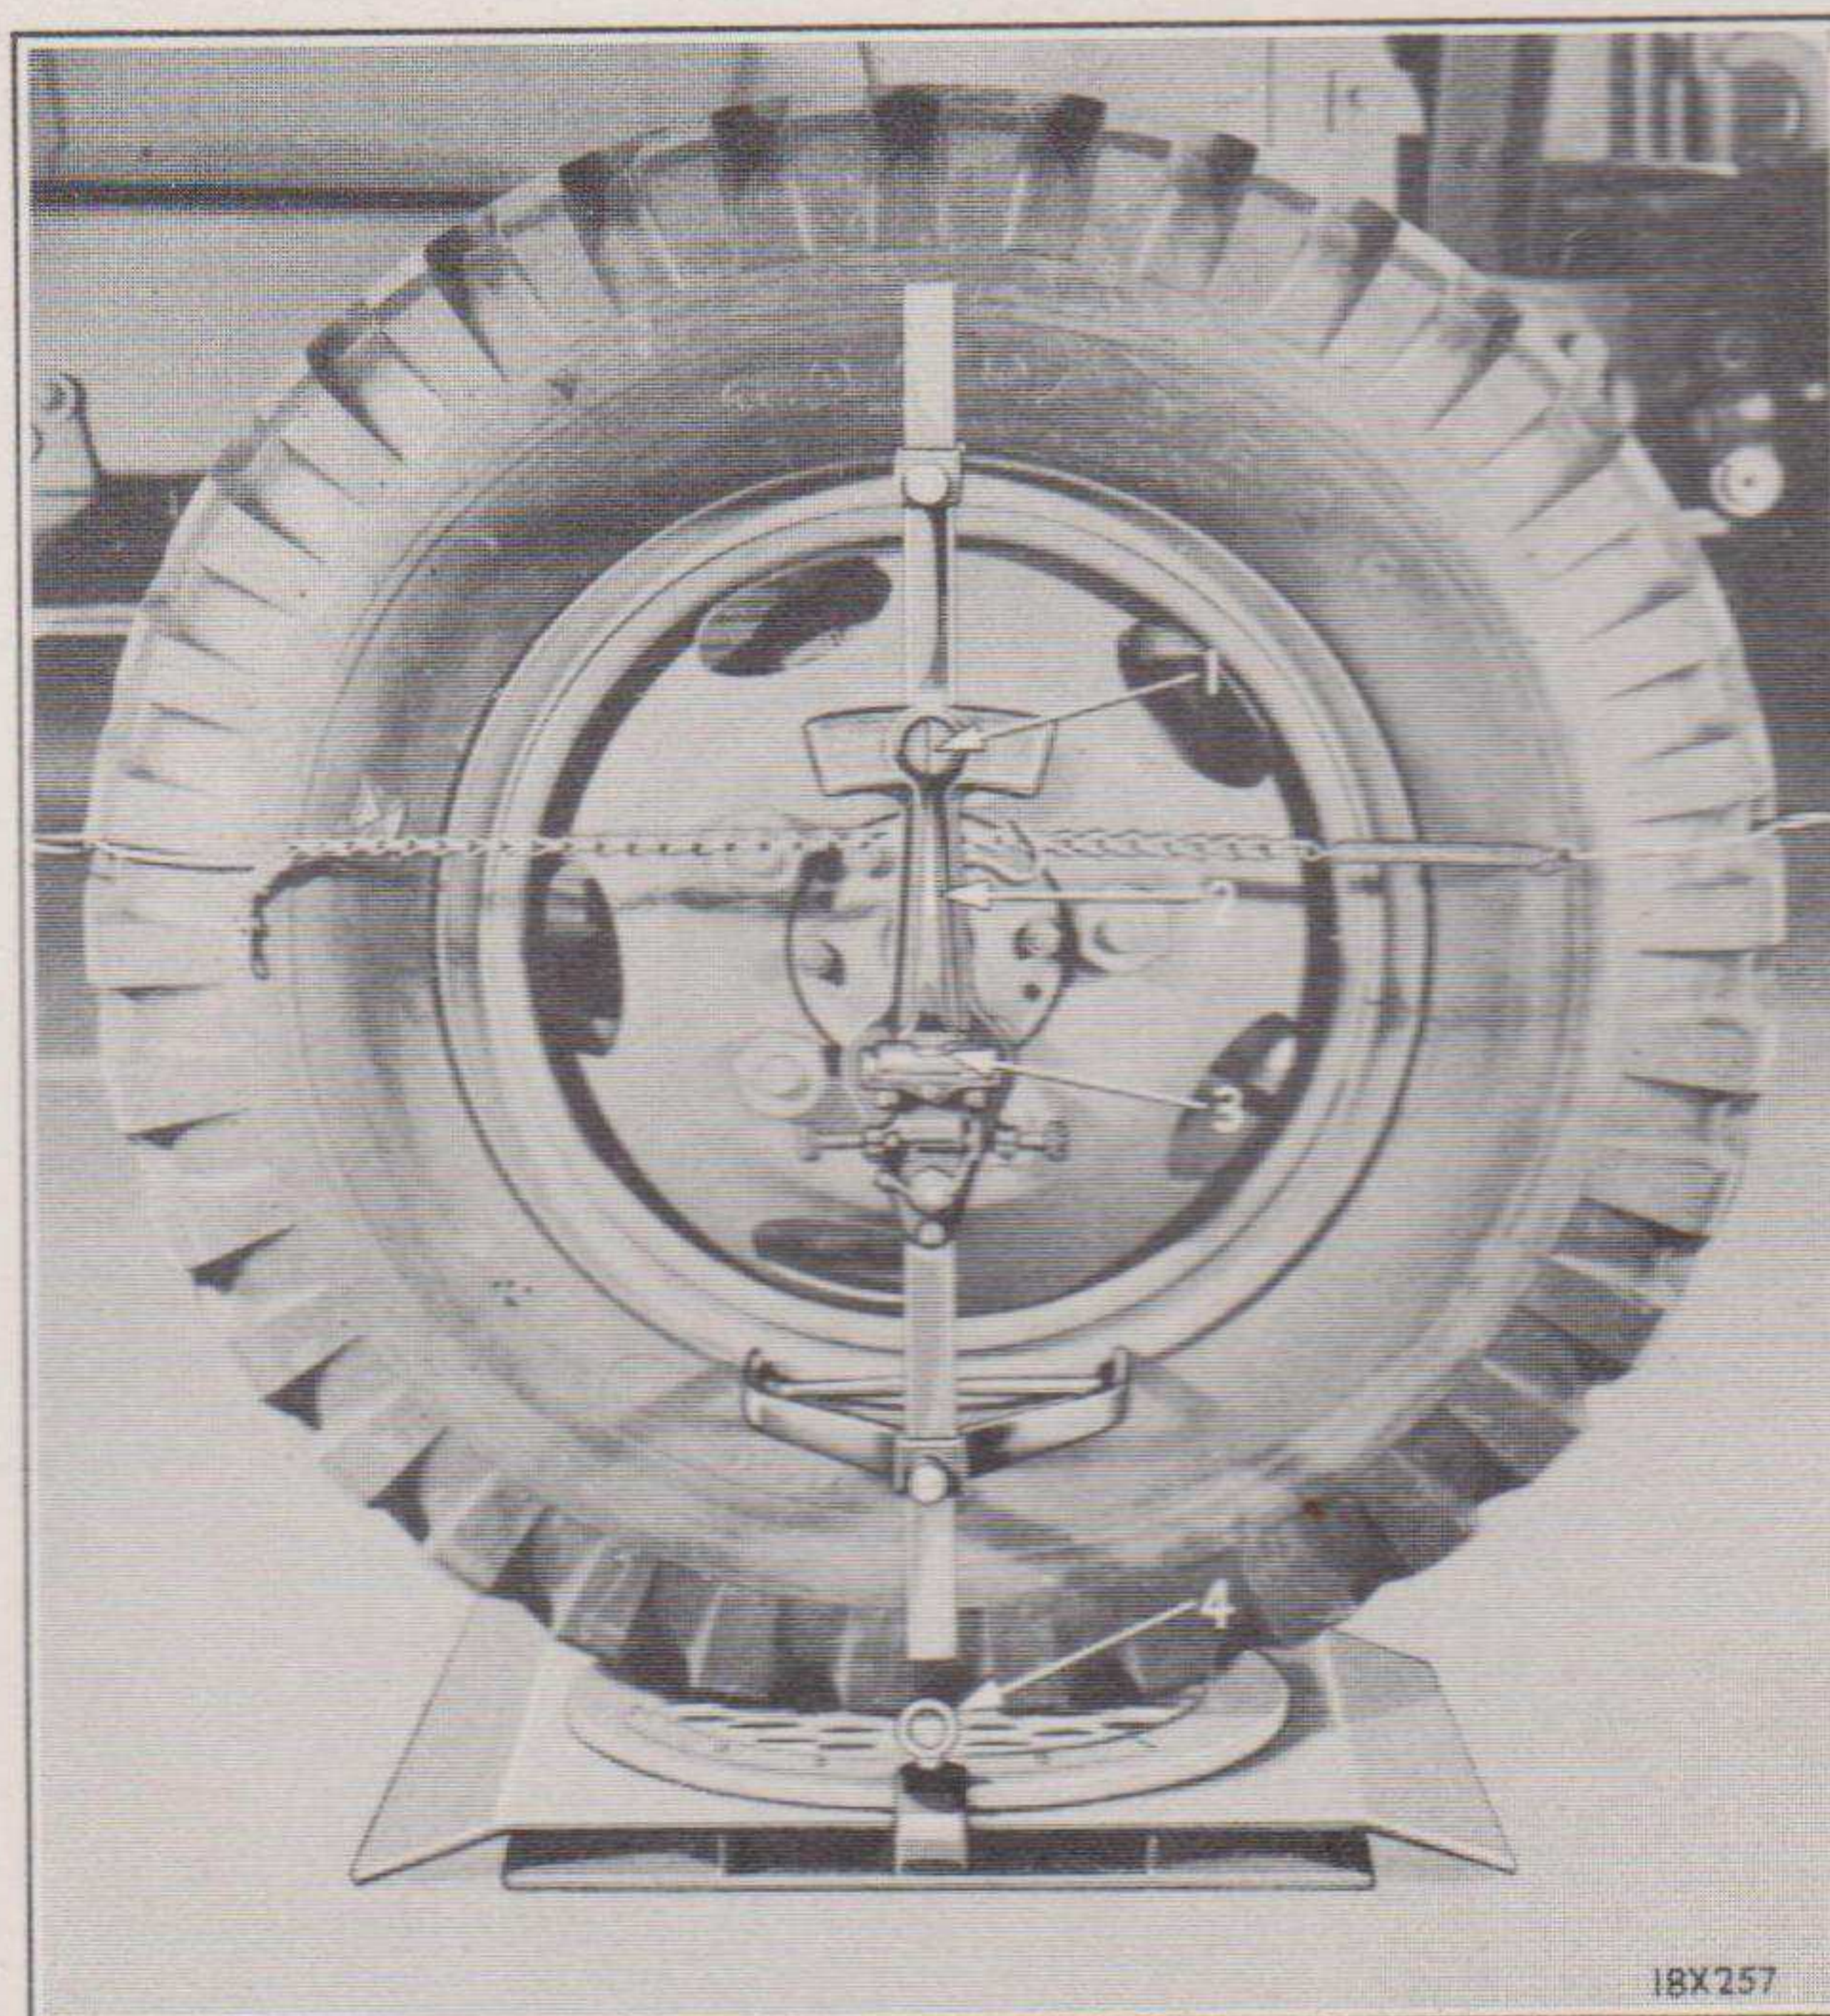

Fig. 40—Checking King Pin Angle—Gauge on Right Wheel (Tool DD-428) (Turntables—Tool DD-435)
- (a) Assemble the gauge to the wheel as shown in Fig. 40, with the quadrant parallel with